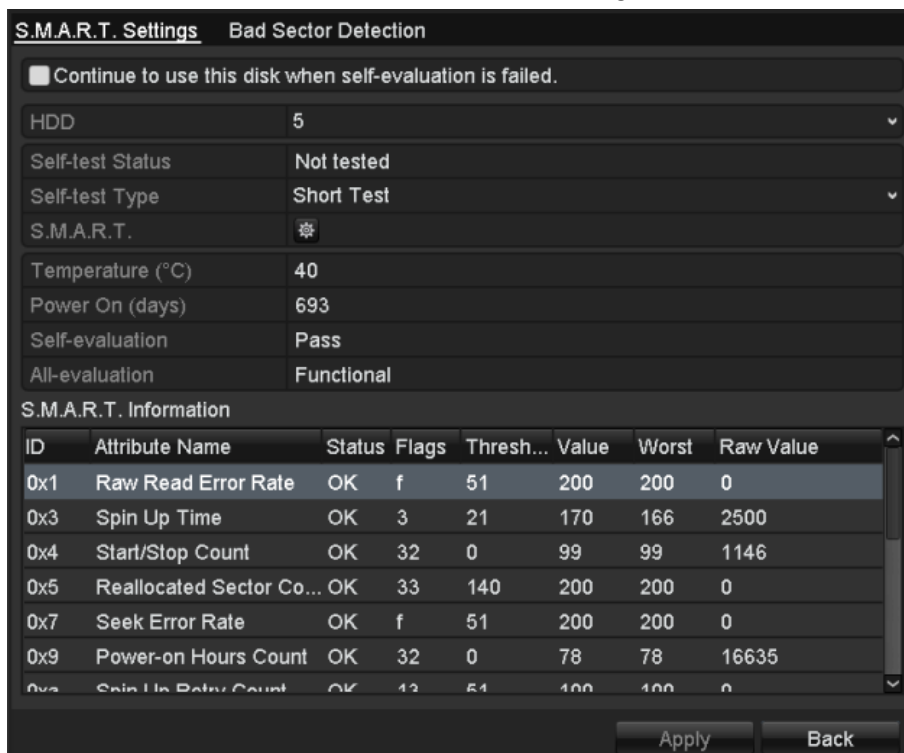

Figure 12. 27 S.M.A.R.T. Settings Interface
2. Select the HDD to view its S.M.A.R.T. information list, as shown in Figure 12. 27.